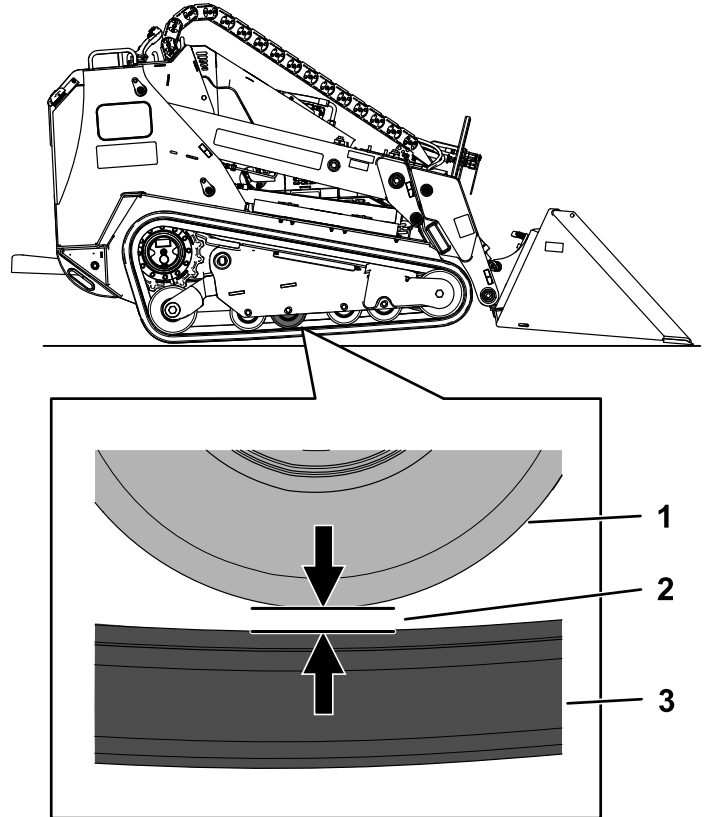

Figure 70
4. Verify that the gap between the 2nd road wheel from the rear and the track is 20 mm (0.8 inch) as shown in Figure 70. If adjustment is needed, proceed to Adjusting the Track Tension \(page 45\)
7. Using a 1/2 inch drive ratchet, turn the tensioning screw until the gap between the road wheel and track is 20 mm (0.79 inch) as shown in Figure 70.
the road wheel and track is 20 mm (0.79 inch) as shown in Figure 70.